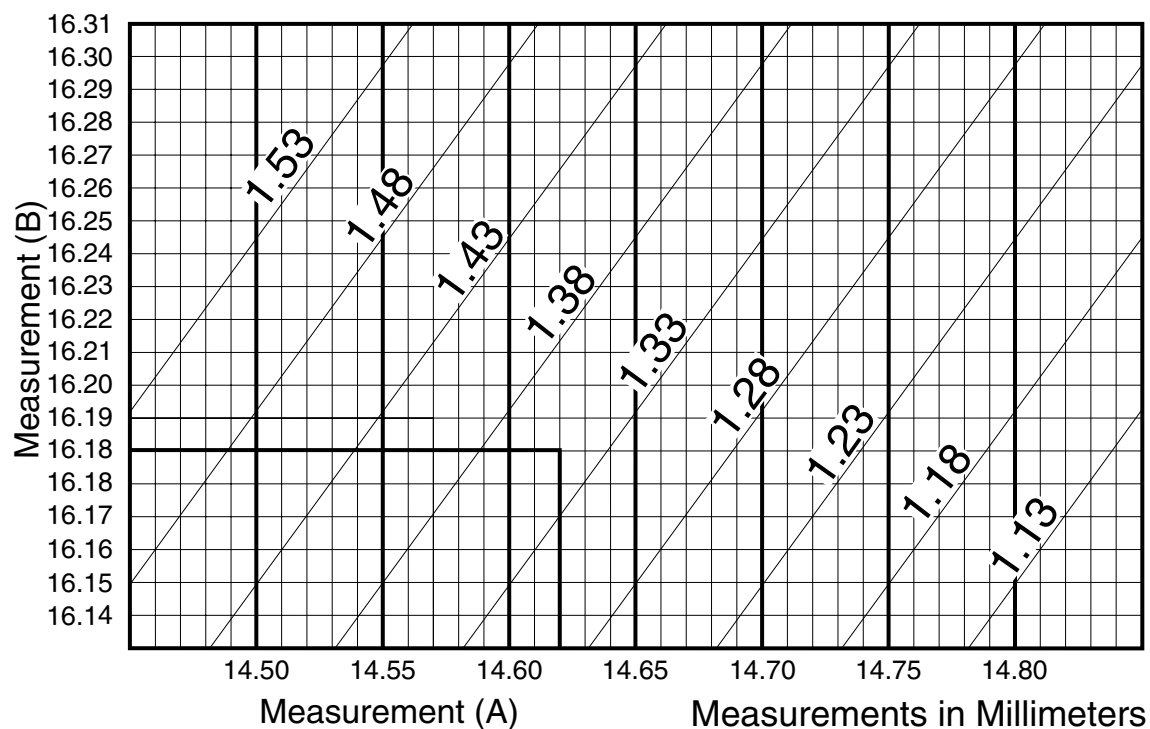

Figure 2-95 Crankshaft Shim Table
3. Locate the measurements on the Crankshaft Shim Table. Follow lines to where the recorded measurements intersect (**Figure 2-95, Page 2-41**).
4. Choose the next smaller shim from the table. Example: Measurement A is 15.87 mm and B is 17.66 mm. The correct crankshaft shim (5) is 1.53 mm.